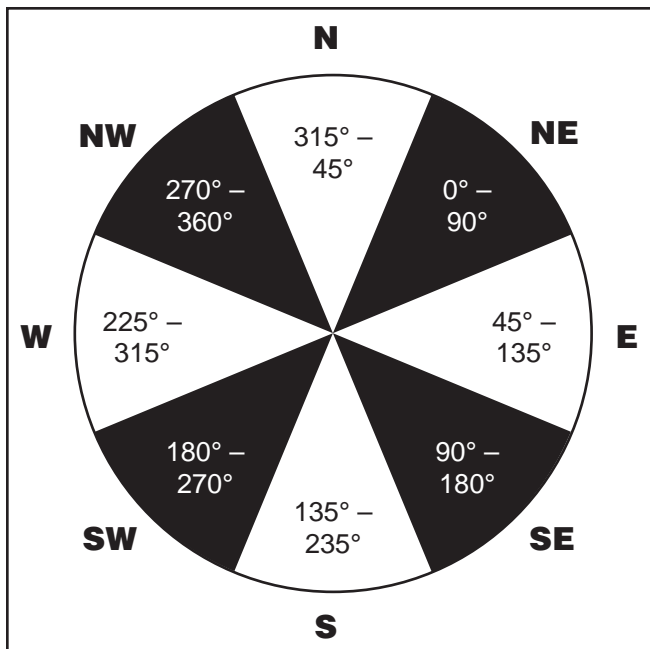

Figure 24. Pie chart of the eight directional regions referenced in the Brightest Star Alignment procedure.
2. The hand controller will prompt you to "Select Region". Choose the direction that corresponds with where you see the brightest star in the night sky. It may be helpful to have a compass for reference during this process. There are eight regions to choose from, each covers a 90-degree span in azimuth (**Figure 24**). The direction